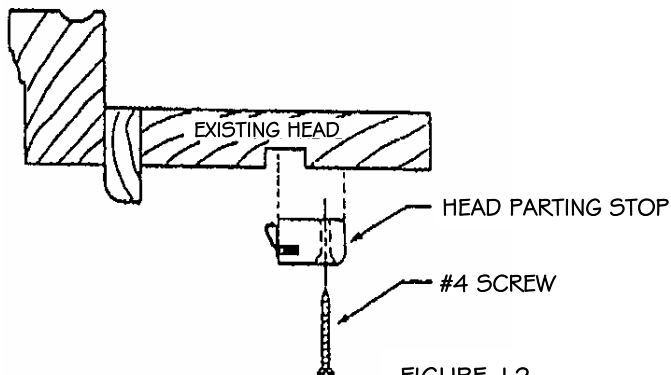

FIGURE 12
14. Installing the head parting stop. With top sash in closed position **gently** hold parting stop (weatherstrip toward sash) against sash at the head. With a pencil, mark the location of the parting stop. See Figure 12.